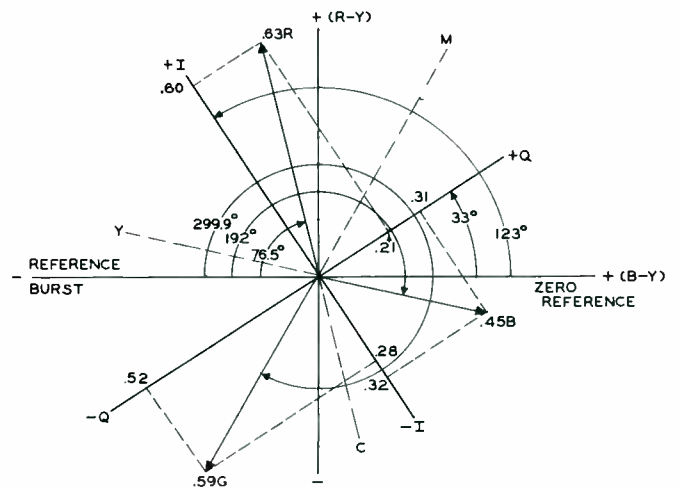

Fig. 3-11. Color-Phase Diagram.
Shown in Fig. 3-11 is a color-phase diagram which represents the color vectors of the system in composite form. It shows the positions of the vectors for the three primary colors employed in color TV, their three complementary colors, the I and Q signals, and the color-difference signals. The positions of the vectors for the primary colors are as follows: (1) for red, reference burst minus 76.5 degrees; (2) for blue, reference burst minus 192 degrees; (3) for green, reference burst minus 299.9 degrees. This means that when one of these colors is being transmitted, the vector representing that color is lagging the reference burst by the number of degrees designated. The vectors for the three complementary colors are shown by dashed lines in opposite directions from those for the three primary colors. Each complementary color is 180 degrees out of phase with its corresponding primary. For instance, yellow which is the complement of blue has a lagging phase angle of 12 degrees with respect to the reference burst. Magenta has a lagging phase angle of 119.9 degrees with respect to the reference burst; and cyan has a lagging phase angle of 256.5 degrees with respect to the reference burst.